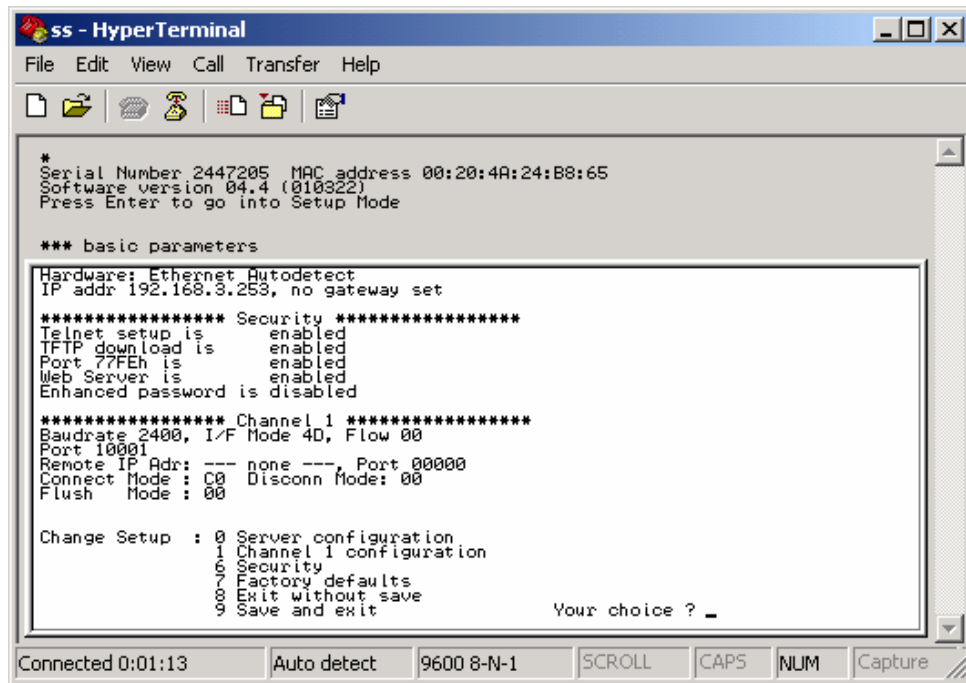

Fig.4 Hyper Terminal Screen
- 2 - To enter Setup (configuration) Mode, cycle the **SF-10's** power (power off and back on). After power-up the self-test begins and the red Diagnostic LED starts blinking. You have one second to enter three lowercase "x" characters. The Setup screen should appear as shown in Fig. 4.